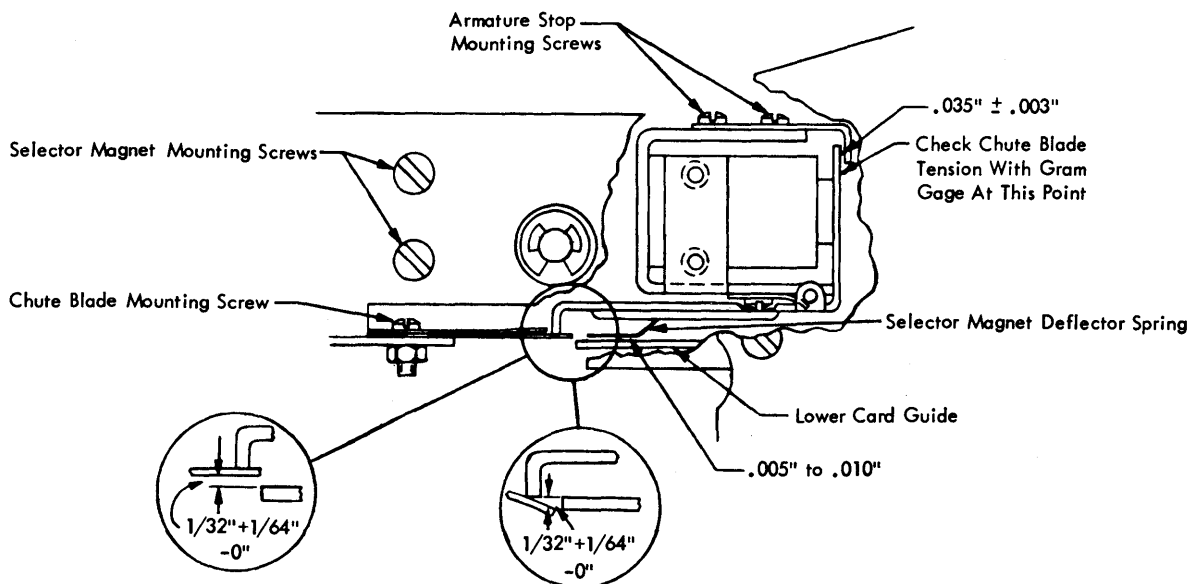

Figure 4-7. Chute Blades and Selector Magnets
4. With a chute blade removed and held on a flat surface, the part containing the mounting hole should project $1/8'' \pm 1/64''$ above the flat surface. Forming the chute blade in this manner should result in proper chute blade tension. A force of 150 to 200 grams should be required to just hold the armature attracted against the upper part of the yoke (Figure 4-7).
1. With selector magnet armatures attracted, adjust the armature stop for $.035'' \pm .003''$ clearance between upper part of armature and stop (Figure 4-7).